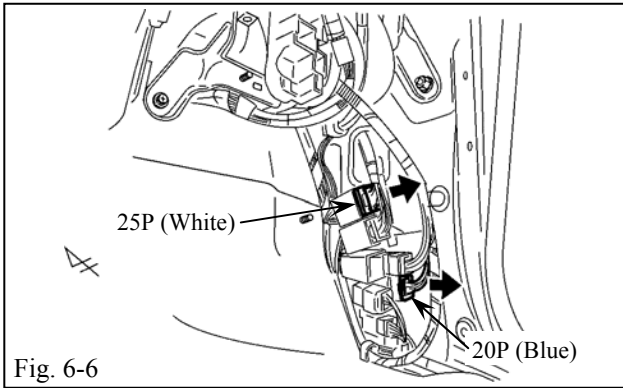

Fig. 6-6
- (h) Locate and disconnect the Vehicle Harness' white 25P Connector and blue 20P Connector form the Passenger Side Cowl Area. (Fig. 6-6)